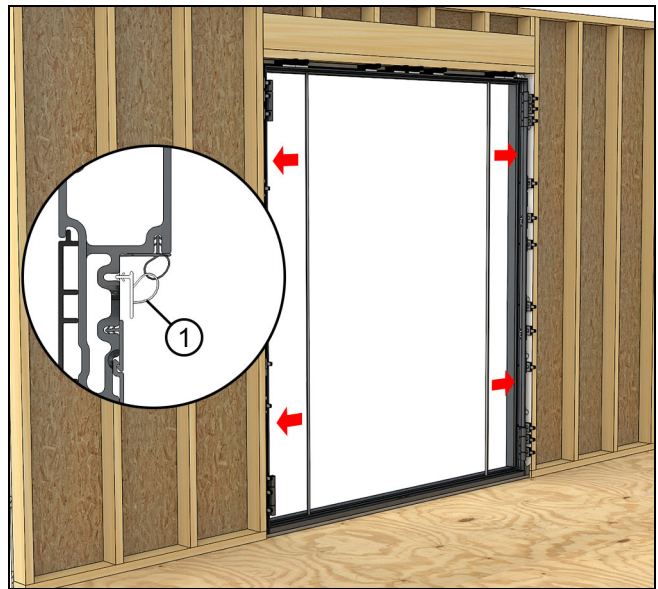
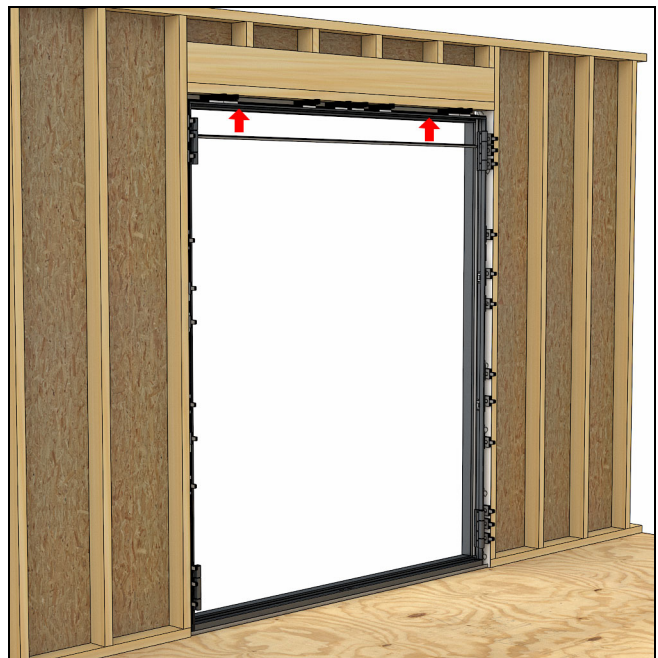

Figure 59
Figure 60
22. Replace the jamb and head jamb weather strip you removed earlier. See Figure 59 and Figure 60.